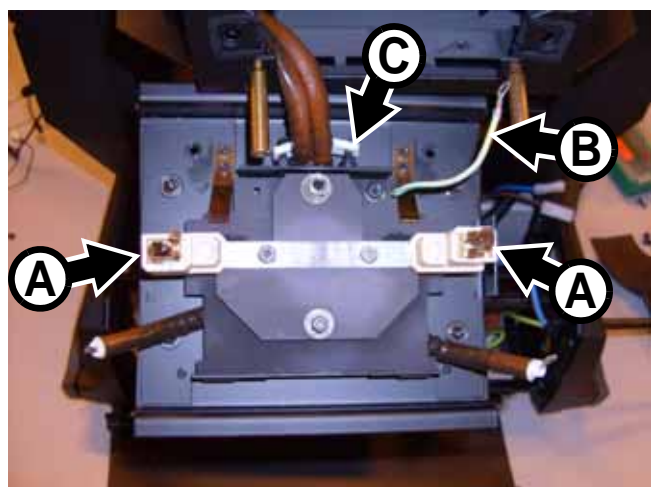

Figure 51
56. See Figure 51. Unscrew the lamp lead clamp screws A and release the leads from their terminals in the lampholder. Unscrew and release the lampholder ground lead B. Release the lamp lead clamp C.